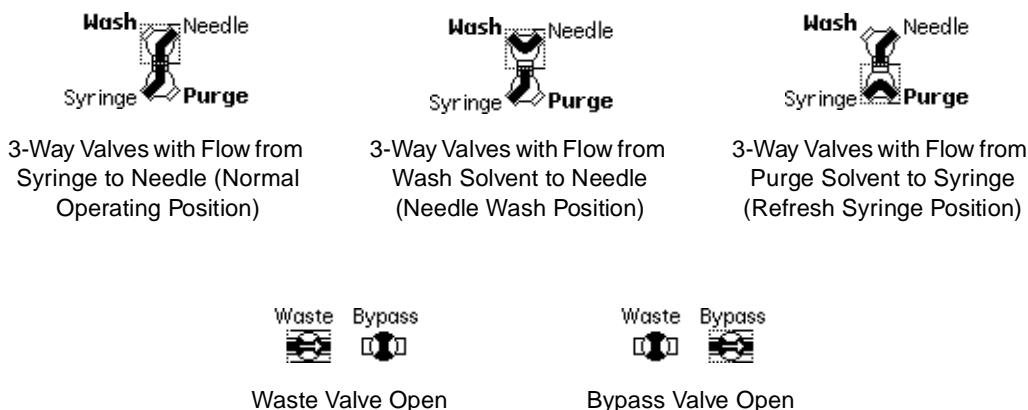

Figure 8-5 2795 Separations Module Valve Positions
1. In the Motors and Valves diagnostics screen, use the arrow keys to select the Wash, Purge, Waste, or Bypass valve. A dotted line surrounds the selected valve (Figure 8-5).
2. Use any key to change the position of the valve from open to closed, or vice versa. Press any key again to return the valve to its original position. Figure 8-5 shows the Wash and Purge valves in three different operational positions, and the Waste and Bypass valves open and closed.